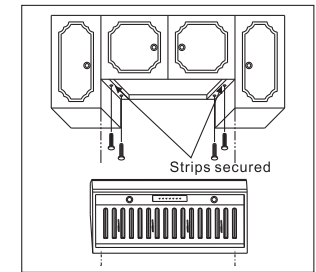

Fig.7
- Position the strips on the cabinet bottom and screw the strips securely to the cabinet (Fig.7)
- The six keyhole mounting slots for the hood. Mark these onto the bottom of the cabinet; or, if the cabinet bottom is recessed. Onto the wood strips (Fig.7)
- c. Screw the four 1" wood screws (for mounting the hood) into the exact center of the arrow and into the keyhole mounting slots marked on the cabinet bottom (for flush installations), or marked on the 1"x2" wood strips (for recessed cabinet installation) (Fig.7) Do not turn the mounting screws in all the way. Allow 3/8" of screw to project, so the hood can be fitted place. (The screws will be tightened later)